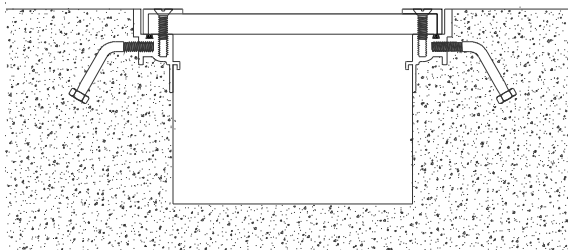

Figure 7
STEP 13. Using the fasteners (part no F1434S) provided by the factory, attach the cover plate to the frame (see Figure 7).